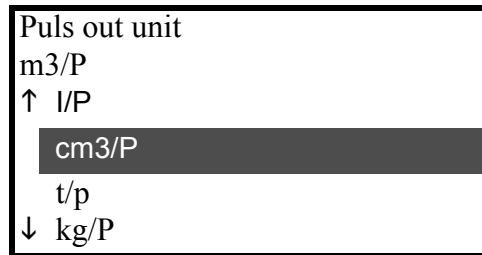

Figure 23 Selection of pulse weight unit
4. When the display as that shown in Figure 23 appears, use the up or down arrow to select the required unit from the six types listed. (kg/P, g/p, t/P, cm³/P, l/P, m³/P)